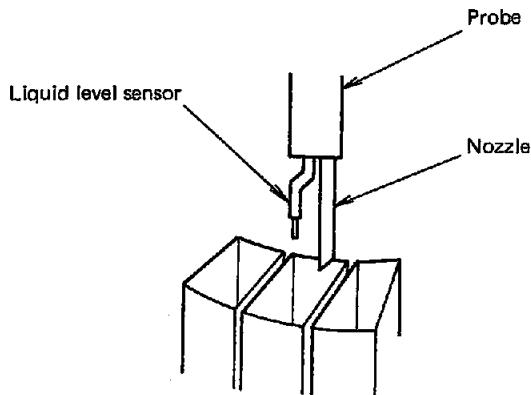

Fig. 4-1-17
(1) Probe Position
- (b) Each probe should stop above the cell as shown in Fig. 4-1-17.